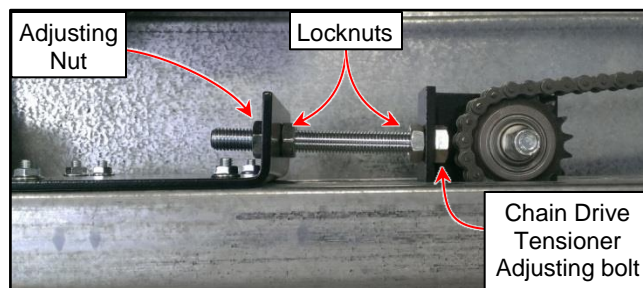

Figure 34
3. Initially the tension of the chain is set at the factory. Tighten or loosen the chain drive by adjusting the bolt in the return idler-tensioner assembly. Typically this needs to be done about every 250,000 cycles, but this will vary with the door size, environmental conditions, etc. The tensioner should have a $\frac{3}{4}$ " gap between the housing and bottom of the "banana" chain glide. (See Figures 34 and 35)
4. Once the chain tension is set, verify that the return idler-tensioner assembly is securely bolted in place. (See Figure 34)